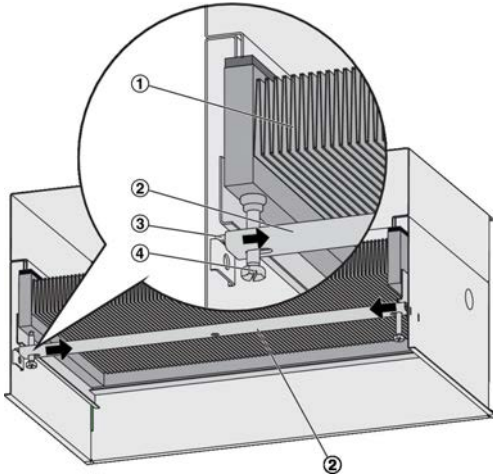

Fig. 10: Filter change
2. ▶ Remove the clamping frame. To do so, loosen the clamping screws (Fig. 10/4) and press the release buttons (Fig. 10/3) in. Remove the clamping frame (Fig. 10/2) with the filter element.
3. ▶ Remove the dust-laden filter (Fig. 10/1) from the clamping frame, put it into a plastic bag and dispose of it properly, see 'Disposal' on page 12.